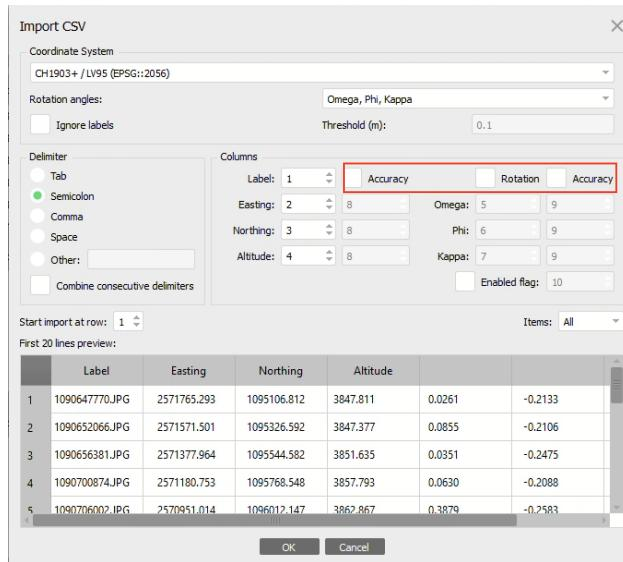

Figure 1: **Fig. 1: Import Reference Settings - No Attitude/Accuracy**
- When importing the reference file, configure the following settings as shown in **Fig. 1** below:
Note 1: Ensure that the **Accuracy** and **Rotation** boxes in the **Columns** section are **unselected** for this step (Fig. 1).